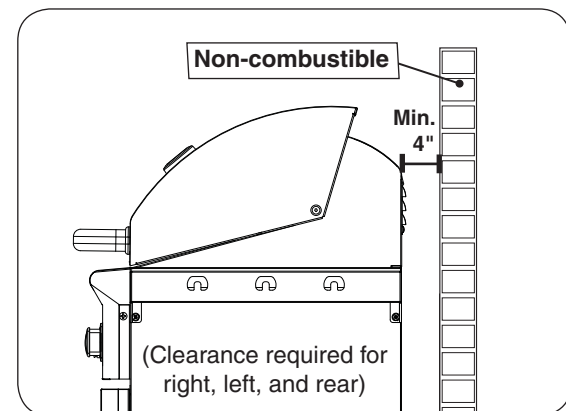

Fig. 10-3 Clearance 'B' Diagram
B. Clearance between grill and strictly non-combustible wall (i.e. brick wall, see Fig. 10-3)